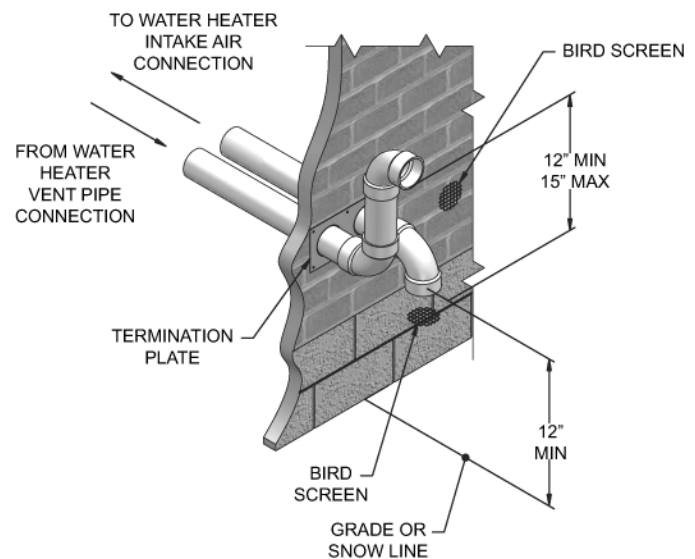

Figure 23. Alternate PVC/CPVC Sidewall Termination of Air and Vent w/Field Supplied Fittings
3. The air piping must terminate in a down-turned elbow as shown in Figure 23. This arrangement avoids recirculation of flue products into the combustion air stream.
4. The vent piping must terminate in an elbow pointed outward or away from the air inlet, as shown in Figure 23.
Do not exceed the maximum lengths of the outside vent piping shown in Figure 23. Excessive length exposed to the outside could cause freezing of condensate in the vent pipe, resulting in potential water heater shutdown.
- b. Air inlet must terminate at least 12 inches above grade or snow line; at least 12 inches below the vent termination; and the vent pipe must not extend more than 24 inches vertically outside the building as shown in Figure 23: